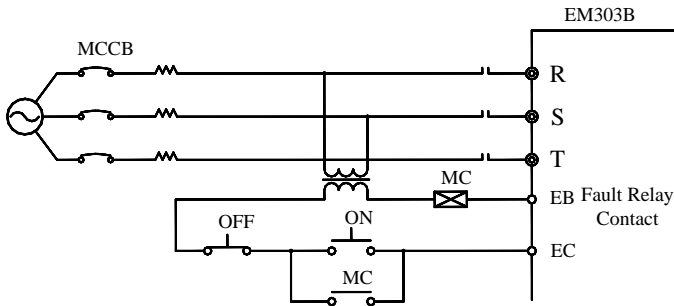

Figure 3-5 Connecting to Input Circuit Breaker
- If single MCCB is shared by two or more inverters or other devices, the contact of fault output relay shall be connected to power contactor coil, so that the power supply will be turned off by the fault signals, as shown in Figure 3-5.
Install an electromagnetic contactor which is applicable to inverter as shown in Figure 3-5.